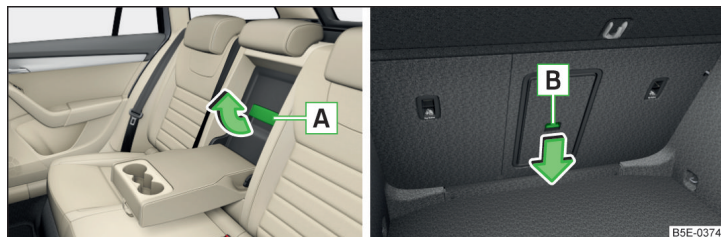

Fig. 76 Lid handle / release button
- Pull the handle [A] » Fig. 76 in the direction of the arrow and fold the cover downwards.
- Push the unlock button [B] » Fig. 76 in the direction of the arrow and fold the cover including the armrest forwards.
Ensure that the armrest is always locked into place after closing. This is apparent as the red field above the unlocking button [B] » Fig. 76 is not visible from the boot.